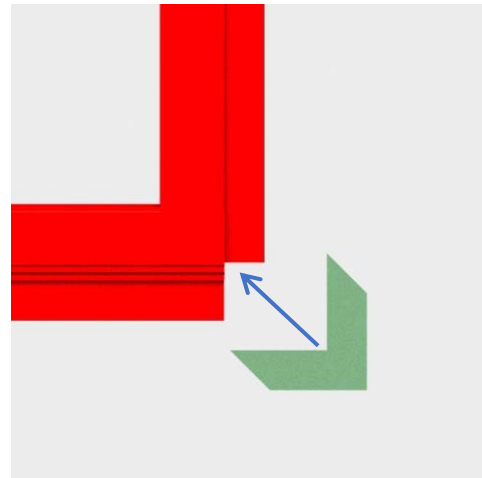
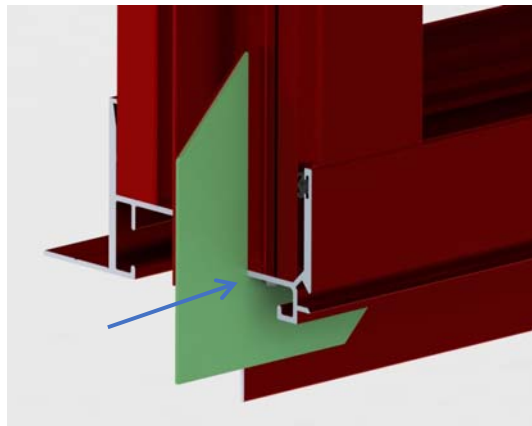

Fig. 11
Fig. 12
- C. Peel backing off the supplied corner gaskets and install over exterior side of flashing flange on the bottom two corners to cover gap between flanges. (Fig. 11) Apply sealant to cover any hole between gasket and frame. (Fig. 12)